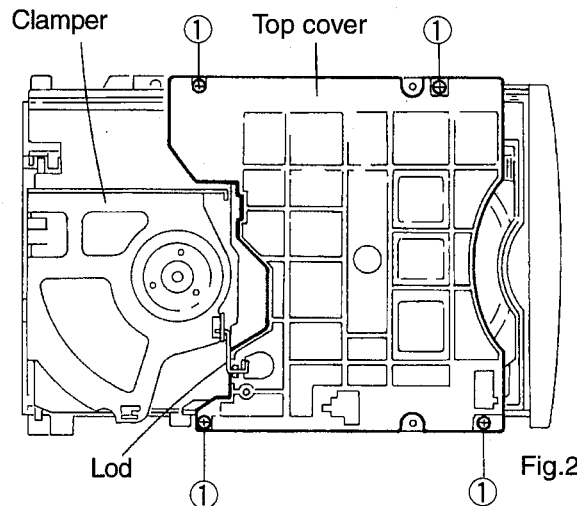

Fig.2
2.Remove the four screws 1 retaining the top cover(See Fig.2).
3.After pulling out the rod from the clamper, remove it together with the top cover(See Figs.2 and 2a).